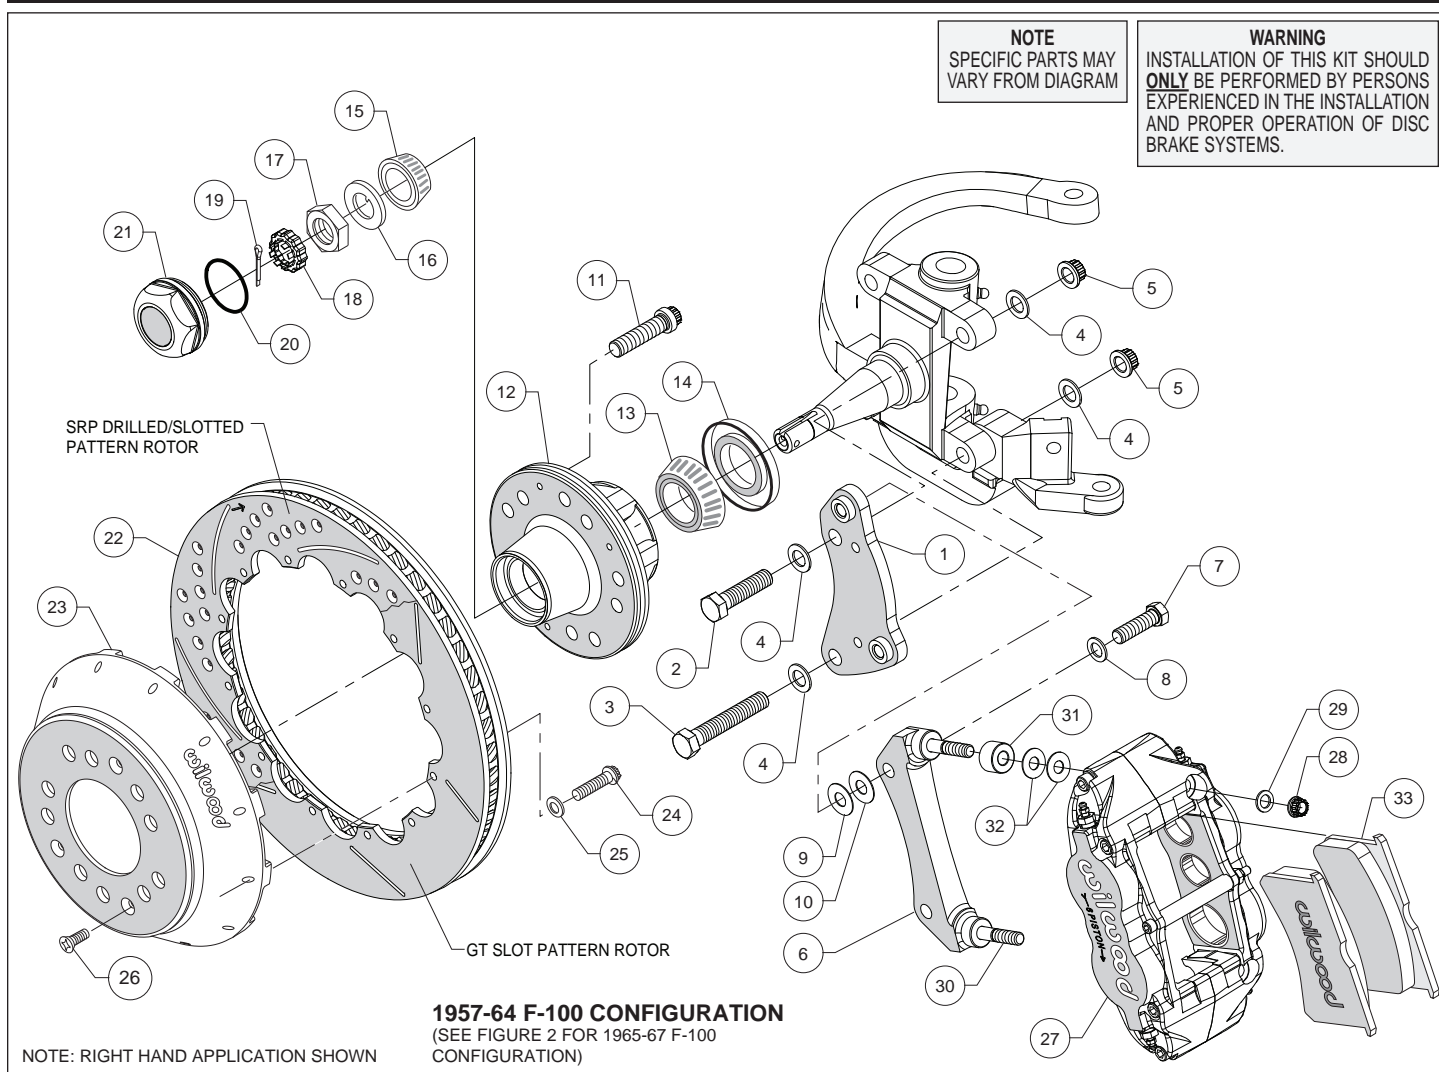
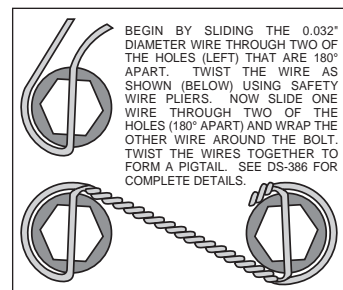
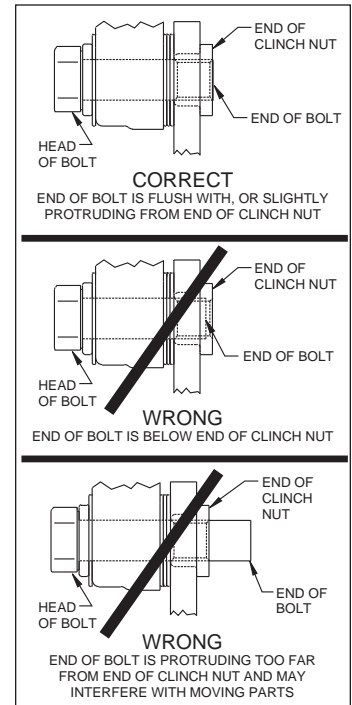

Figure 1. Typical Installation Configuration, Model Years 1957-1964
Figure 4. Safety Wire Diagram
Figure 5. Clinch Nut Engagement Diagram
Assembly Instructions (numbers in parenthesis refer to the parts list, on the preceding page and Figures 1 and 2). **CAUTION:** All mounting bolts must fully engage clinch nuts. Be sure to check that all bolts are either flush or protruding through flanged side of clinch nut after shimming, Figure 5.
- Orient the spindle bracket (1) as shown in Figure 1 or 2, and Photo 1, and install using bolts (2 and 3), washers (4) and nuts (5). Temporarily tighten the mounting bolts. Ensure that the flanged heads of the clinch nuts in the bracket are facing outboard, Photo 1. **NOTE:** The bracket must fit squarely against the mount bosses on the upright. Inspect for interference from casting irregularities, machining ridges, burrs, etc. Torque lock nuts (5) to 65 ft-lb.
- The caliper mount radial bracket (6) should initially be installed with clean, dry threads on the mounting bolts. Orient the bracket as shown in Figure 1 or 2, and Photo 2. Install onto the spindle bracket using bolts (7), and washers (8). Initially place one .030 thick shims (9) on each bolt between the radial and spindle brackets, Figure 1 or 2. Temporarily tighten the mounting bolts. Later, after the caliper alignment has been checked, the mount bolts will be secured using red *Loctite*® 271.
- Screw dust cap (21) into hub (12), Photo 8. Friction created by the o-ring (20) on the dust cap keeps it from unscrewing. **NOTE:** The O.D. of the existing OEM spindle washer may be larger than the I.D. of the dust cap not allowing it to seat against the hub face. Therefore, use the spindle washer (16) supplied with the kit instead of the OEM washer.
- Orient the rotor (22) and the hat (23) as shown in Figure 1 or 2 and Photo 9. Attach rotor to hat using bolts (24) and washers (25). Using an alternating sequence, apply red *Loctite*® 271 to the threads, and torque to 155 in-lbs. For an added measure of security, the bolts may be safety wired using standard 0.032 inch diameter stainless steel safety wire as shown in Figure 4. Refer to Wilwood's data sheet DS-386 (available at www.wilwood.com/Pdf/DataSheets/ds386.pdf) for complete safety wire installation instructions.
- **NOTE:** This kit contains distinct right and left hand calipers that must be mounted in a specific direction, as described below. Lubricate the caliper mounting studs (30) with lightweight oil. Initially place one spacer (31) and two .035" thick shims (32) on each stud between the caliper and the bracket, as shown in Figure 1 or 2, and Photo 11. Mount the caliper (27) onto the bracket (6) using lock nuts (28) and washers (29), Figure 1 or 2. Ensure that the caliper is mounted so the largest pistons are at the rotor exit end of the caliper, in relation to the direction of rotor rotation. Temporarily tighten the lock nuts and view the rotor through the top opening of the caliper. The rotor should be centered in the caliper, Photo 12. If not, adjust by adding or